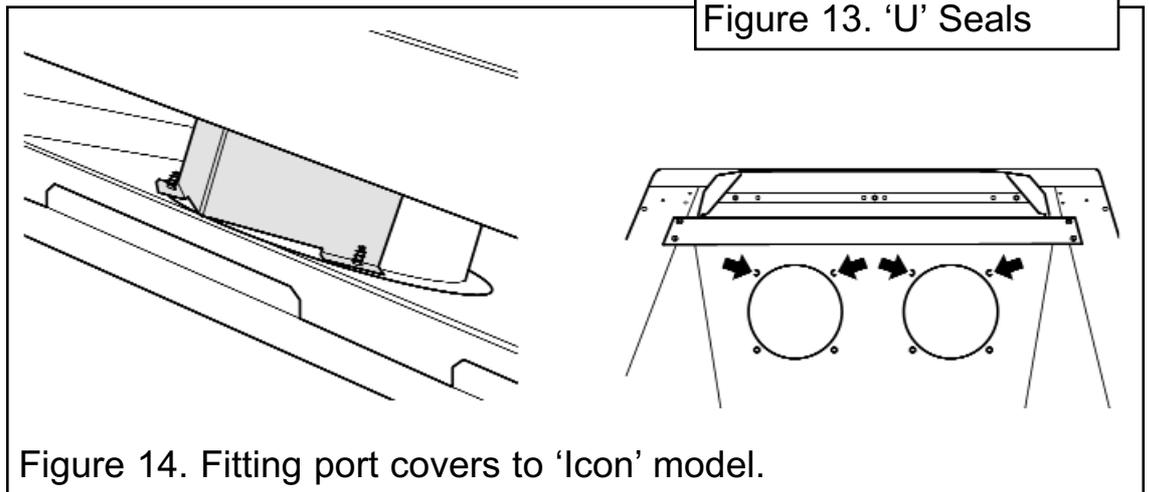

Figure 14. Fitting port covers to 'Icon' model.
5. The 'Icon' fascia is supplied with two port covers. To fit the port covers unscrew the four cross over port screws shown in figure 14. Put the port covers in place and refit the screws previously removed. *Ensure that the screws are tight and that the cross over ports have returned to their original position. Also check that there are no gaps between the cross over ports and the surfaces they are screwed to* (See figure 14).